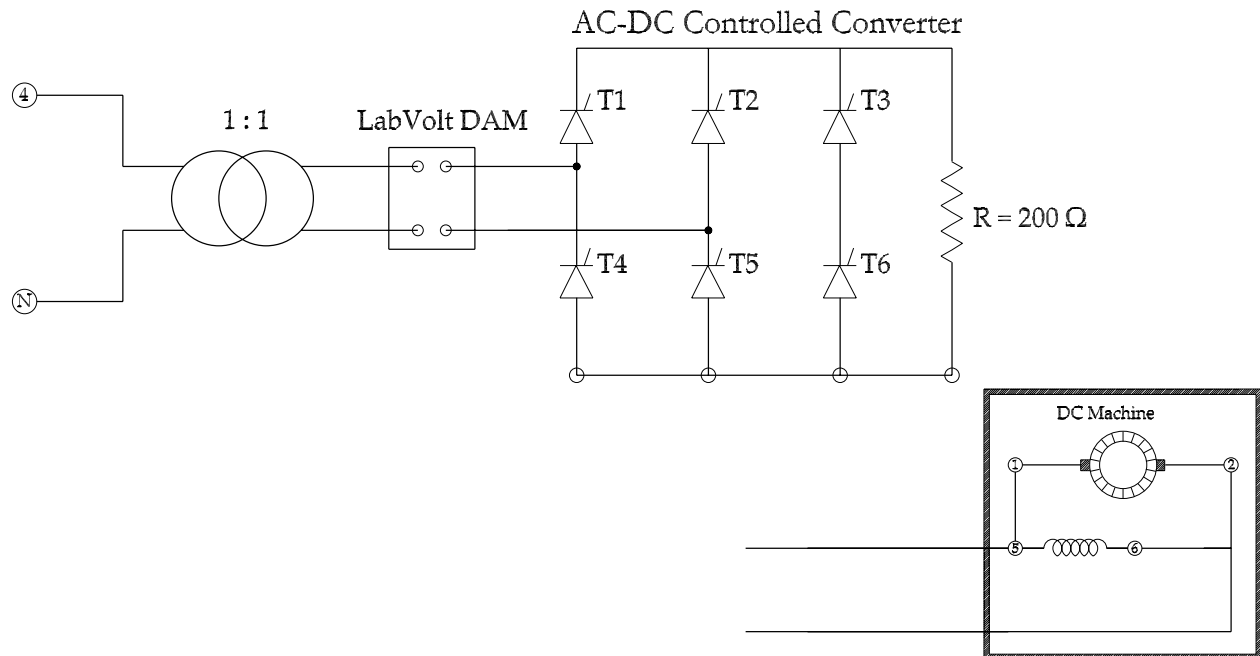

Figure 1: The 1ϕ full-wave rectifier and both load types.
STEP 1: Construct the circuit shown in Figure 1.